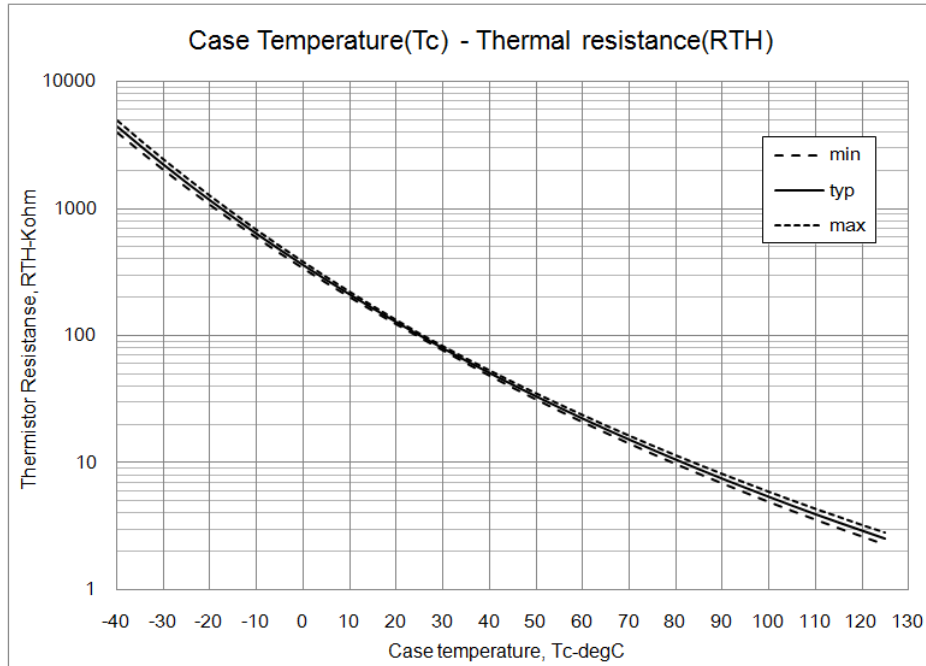
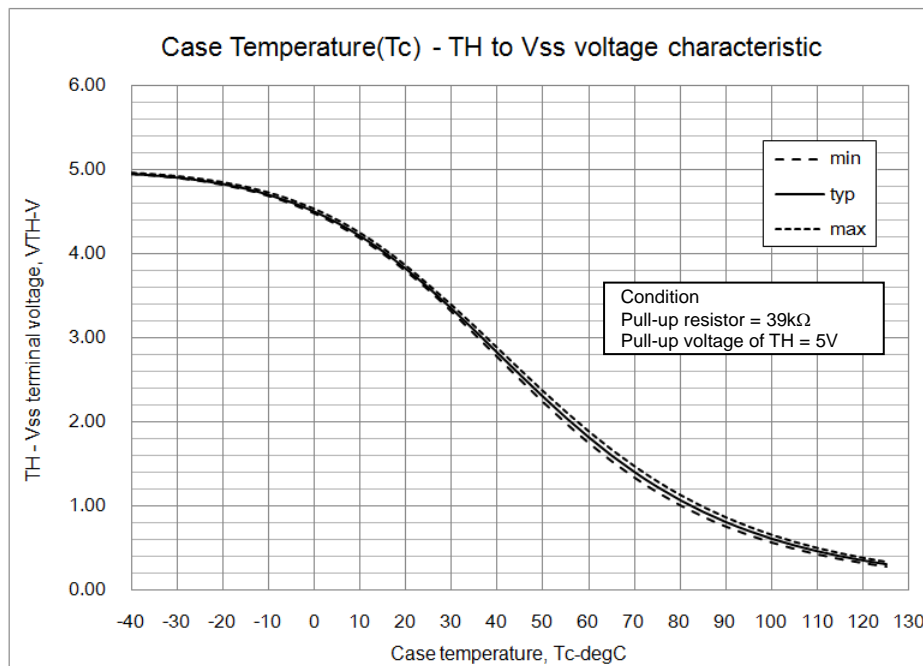

Fig.9
Fig.10
3. “FLTEN” (Pin 18) is open Drain (Active Low). This terminal serves as the shut down function of the built-in pre-driver. (When the terminal voltage is above 3V, normalcy works, and it is shut down when it is equal to or less than 0.8V.) Please make pulling up outside so that “FLTEN” terminal voltages become more than 3V. When the pull up voltage (VP) is at 5V, pull up resistor (RP) recommended more than 6.8k Ω , and in case of VP=15V, RP recommended more than 20k Ω .
4. Inside the IPM, a thermistor used as the temperature monitor for internal substrate is connected between VSS terminal and TH terminal, therefore, an external pull up resistor connected between the TH terminal and an external power supply should be used. The temperature monitor example application is as follows, please refer the Fig.9, and Fig.10 below.